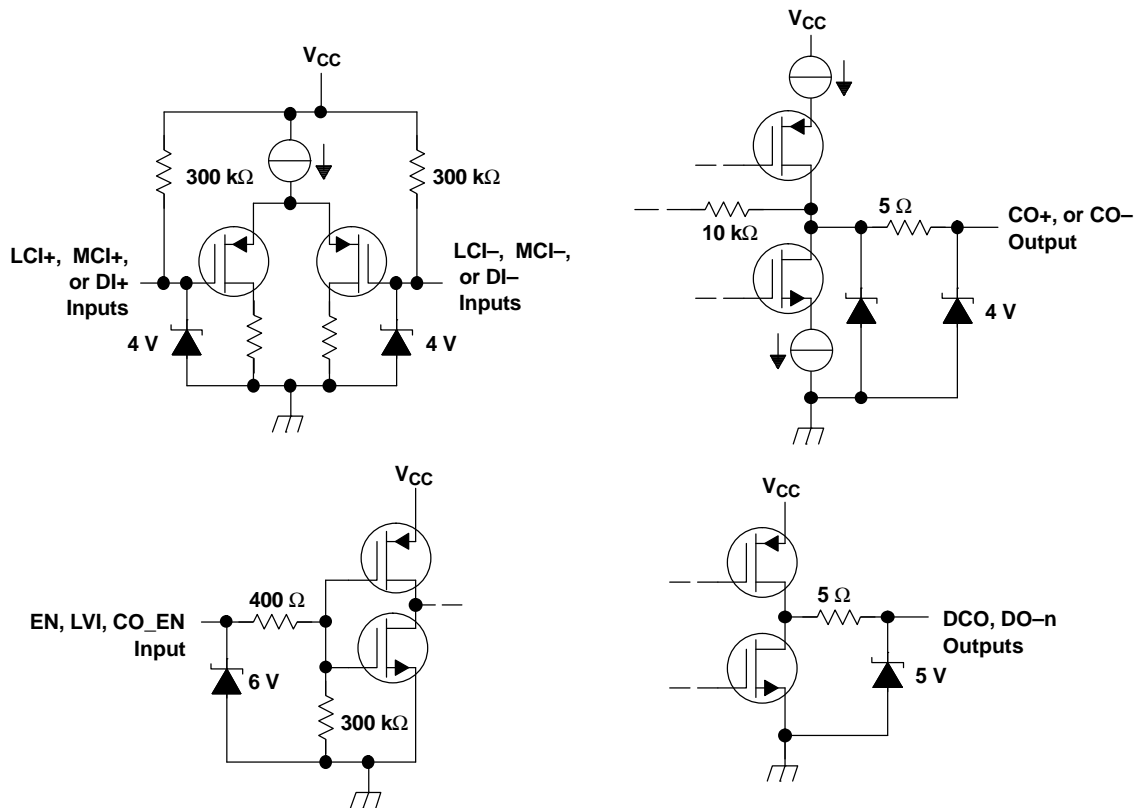

**Figure 1. Operating Waveform Examples**
Data is serially shifted into the SN65LVDS152 shift register on the falling edges of the M-clock input (MCI). The data is latched out in parallel from the SN65LVDS152 shift register on the second rising edge after the first falling edge of the M-clock following a rising edge of the link clock input (LCI). The SN65LVDS152 includes LVDS differential line receivers for both the serialized link data stream (DI) and link clock (LCI). High-speed signals from the SN65LVDS150 MuxIt programmable frequency multiplier (MCI), plus the input and output for cascaded data (DI, CO) are carried over differential connections to minimize skew and jitter. Examples of operating waveforms for values of M = 4 and M = 10 are provided in Figure 1.